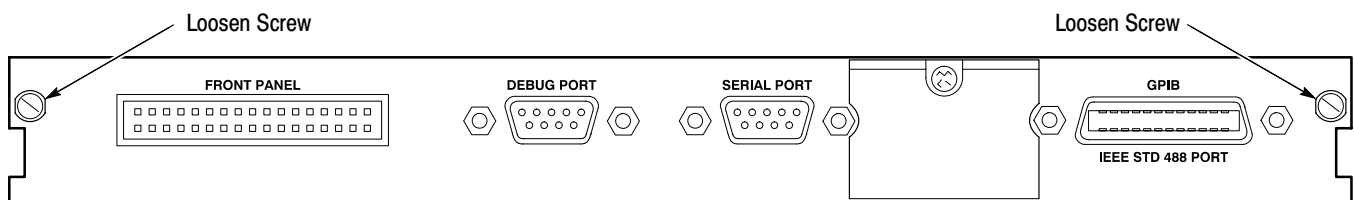

Figure 1: The CPU card
3. The CPU card is fastened with two screws, one on either end of the card front panel. Remove these screws, and pull the card straight forward. See Figure 1.
3. The CPU card is fastened with two screws, one on either end of the card front panel. Remove these screws and pull the card straight forward. See Figure 1.